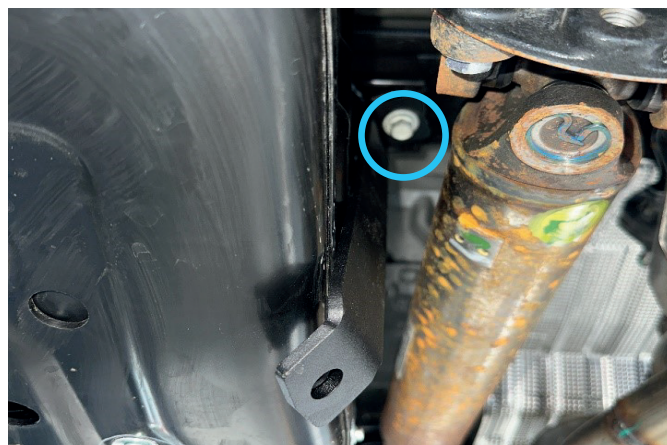

Fig. 6
6. Install rear right bracket (item 2) and secure it using factory bolt as shown in fig.6.
10. Install rear left bracket (item 3) and secure using factory bolt and installed bolt M10x25 (item A) and washer 10 (item B) from step 8 as shown in fig.6.